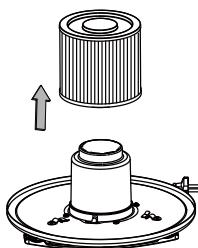

Fig 10
- Carefully remove the cartridge filter from the power head (Fig. 10).